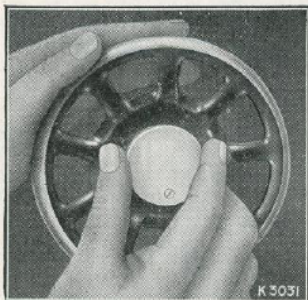
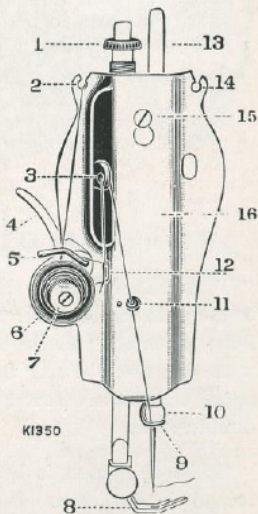
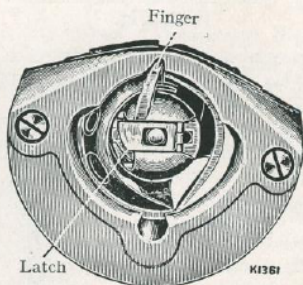

Fig. 1.
Fig. 3.
Fig. 4.
This device allows the balance wheel to run free, so that bobbins may be wound and the correct method of treading acquired without operating the stitching mechanism. To loosen the wheel, hold it with the left hand, and with the right hand turn the stop motion screw over towards you, as shown in Fig. 1.
When familiar with the working movement, tighten the balance wheel by turning the stop motion screw from you, and place a piece of material under the presser foot (8, Fig. 3). Lower the latter by means of the lifter (4, Fig. 3) and again work the machine, without its being threaded, until you are accustomed to guiding the material.
Tighten the balance wheel (see Fig. 1) and place a piece of material under the presser foot (8, Fig. 3). Then lower the latter by means of the lifter (4, Fig. 3). Now **turn the handle over from you** to work the machine, without its being threaded, until you are accustomed to guiding the material with the left hand.
(See Fig. 3)
Turn the balance wheel towards you until the take-up lever (3, Fig. 3) is at its highest point. Draw open the slide in the bed of the machine and, with the thumb and forefinger of the left hand, open the latch (see Fig. 4) and withdraw the bobbin case.
Loosen the balance wheel (see Fig. 1) and place a reel of thread on the spool pin. Pass the end of thread through the notch at top of face plate (14,
Fig. 3), then thread the bobbin winder by passing the thread first through the lower eyelet (5) of the thread guide from below and into the notch (2) at its top. Now pass the thread through a hole in the left disc of the bobbin from the inside, and with the left hand press the bobbin on to the spindle (1) and hold. Then with
After threading the bobbin case hold its latch between the thumb and forefinger of the left hand and, with its position finger opposite the notch at the top of the shuttle race (see Fig. 4), replace it on the centre stud of the shuttle. Then release the latch and press the bobbin case back until the latch catches the groove near the end of the stud. Allow the end of thread to hang free, and close the slide in the machine bed.
Raise the take-up lever (3, Fig. 3) to its highest and lift the presser foot (8, Fig. 3). Move the material back and to the left and sever the threads by passing them over the thread cutter above the presser foot. Leave a few inches of thread under and at the back of the presser foot.
For ordinary family sewing it is seldom necessary to change the pressure on the material. If sewing fine silk or flimsy material, lighten the pressure by giving the thumb screw (1, Fig. 3) two or three turns upwards. To increase the pressure, give the thumb screw a few turns downwards.
If used constantly, the machine should be oiled daily, while with moderate use, an occasional oiling is sufficient. A drop of oil applied at the points indicated by arrows in Figs. 12 and 13, is sufficient. To oil the needle bar mechanism, remove the face plate (16, Fig. 3) by loosening the screw (15, Fig. 3) and slipping the plate up over it. **It is most important that oil be applied to point "A" Fig. 12 and to point "B" Fig. 13 when the needle bar is at its lowest.** When oiling, insert the oil can spout well into the oil holes. A drop of oil should also be applied to the shuttle race.
The thread take-up spring (12, Fig. 3) is not broken.
Stitches Looping. See that the spring (12, Fig. 3) is not broken, that the upper and under tensions are equal (see page 11), that both bobbin case and needle are properly threaded, that the thread is of good quality and of correct size for the needle (see table on inside of back cover).